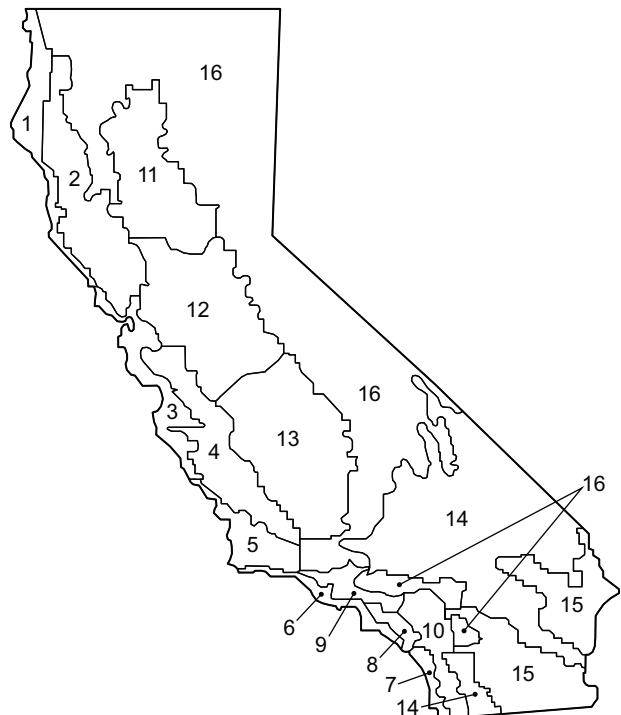

Fig. 97 – California Title 24 Zones
- b. See Fig. 97 for map of California Title 24 zones.